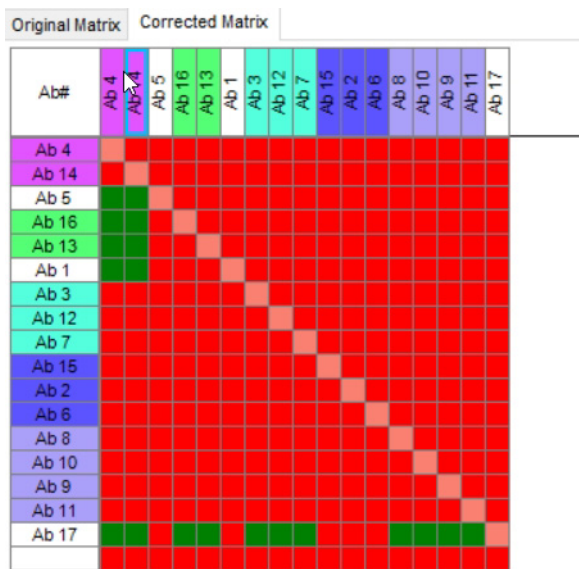

Figure 7-14: Heat Map
- **Size for Heat Map**—Resizes the matrix into a full-window heat map for easier viewing (Figure 7-14).